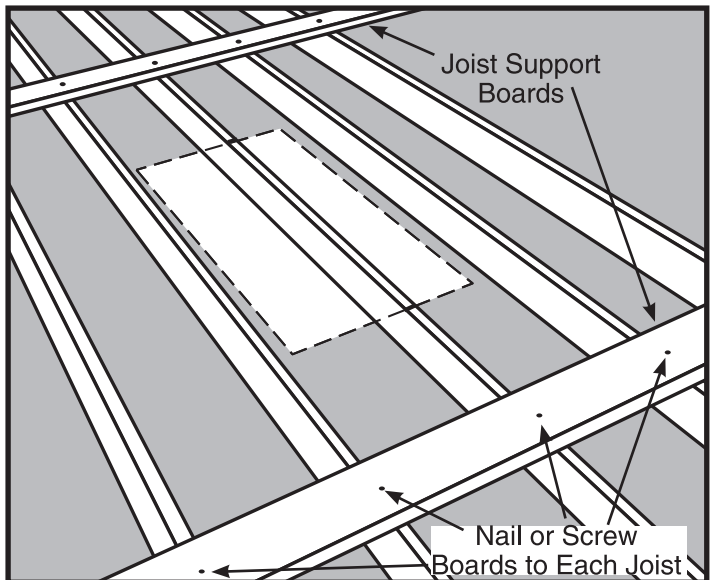

Figure 9
Step 2. Cut (2) joist-sized boards long enough to span (2) joists on each side of your chosen location (See Figure 9).
Step 3. Place these boards approximately 24" from the edge of your chosen location and nail (See Figure 9).